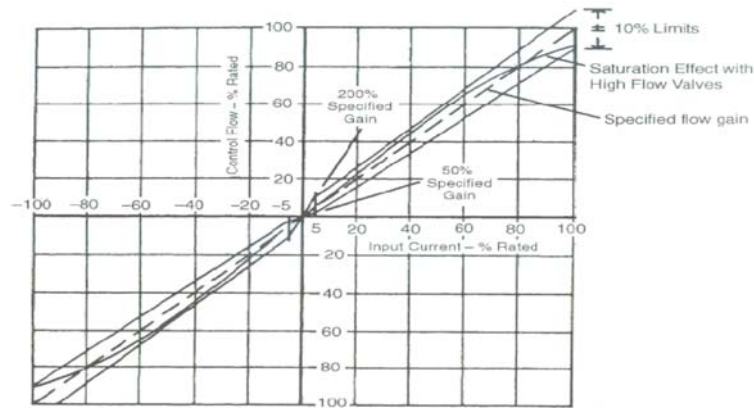

FIGURE 11.20
- Flow gain is determined by measuring control flow vs. input current and plotting the curve (Fig 11.20)